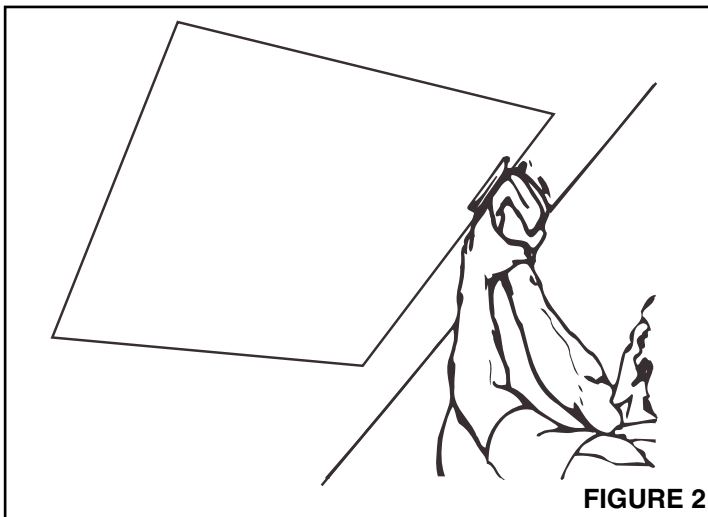

FIGURE 2
- Refer to Figures 2 and 3.** Before cutting joists, lay a 2" x 4" across joists to be cut and adjacent joists, approximately 8" from end of opening. Nail 2 x 4's securely to joists. Cut and remove joist(s) 1½" back from opening.